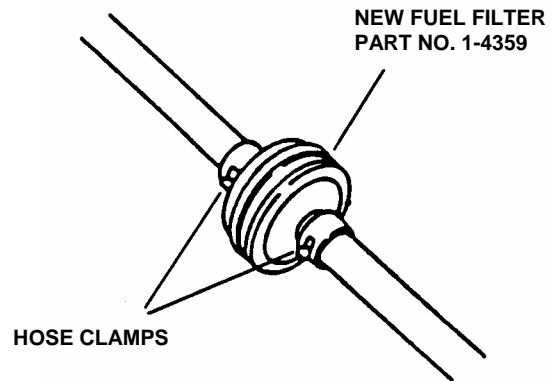

FIGURE 3.10
3. Install new fuel filter. Reinstall hose clamps. See Figure 3.10.